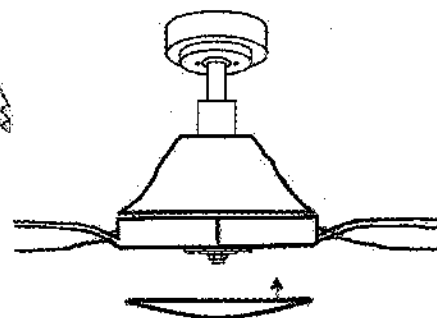

Figure 11
Step 4 Finally install the bottom cover to the shaft by rotating it clockwise. (Fig. 11)